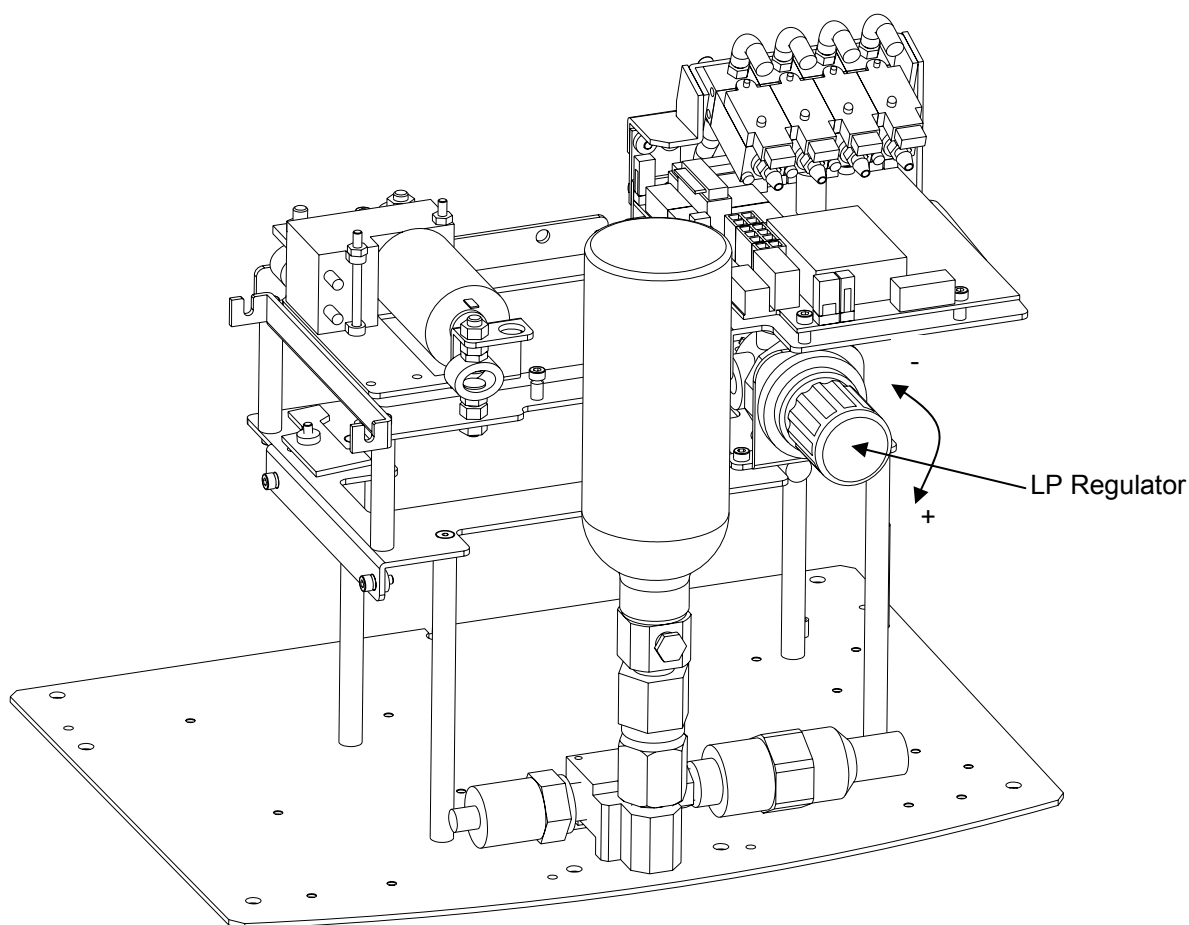

Figure 4.2.1-2 LP regulator.
- Connect a pressure sensor to the Pneu 1 line on the six tube connector, see figure 4.2.1-1